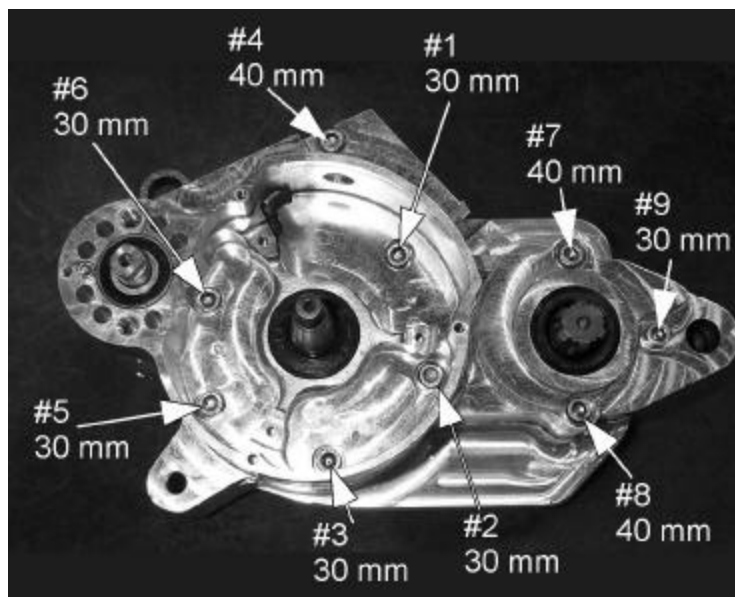

Figure 11
14. Torque to 9 Nm (80 in-lb) in the pattern shown in figure 11.